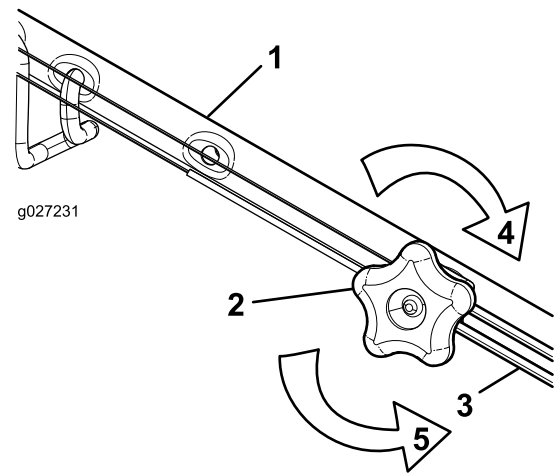

Figure 46
1. Turn the adjustment knob counterclockwise to loosen the cable adjustment (Figure 46).
2. Adjust the tension on the cable (Figure 46) by pulling it back or pushing it forward and holding that position.